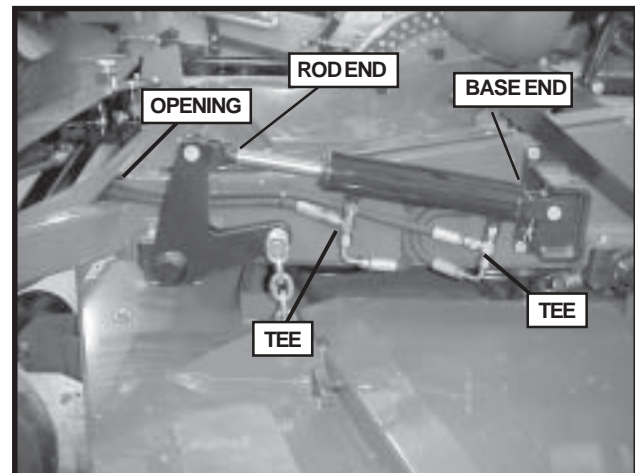

FIGURE 2
4. Remove hydraulic lines from the deck hydraulic cylinder. Attach the two tees to the cylinder, then reattach the deck lines to the tees. See Figure 2.
5. Attach the new shorter (39.5") hydraulic line to the base end tee of the deck cylinder and attach the longer (42") line to the rod end tee of the deck cylinder. See Figure 2.
6. Route the hydraulic lines toward the front threading the lines through an opening above the front frame tube. See Figure 2.